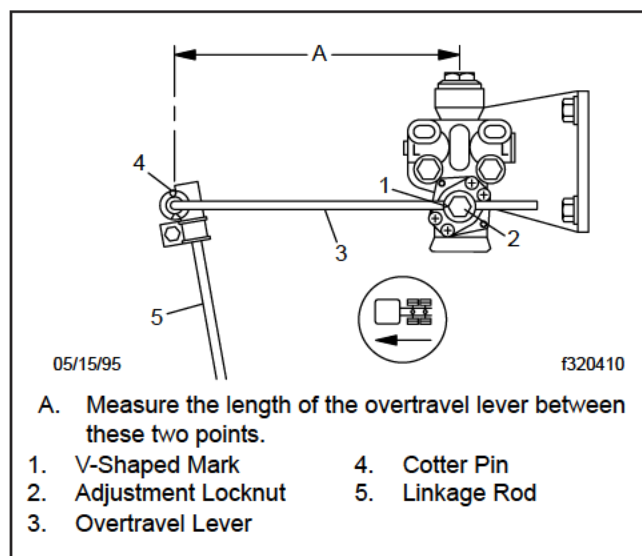

Fig. 5, AirLiner Overtravel Lever and Linkage Rod Measurement
3. Check the length of the overtravel lever between its pivot points. See Fig. 5, Ref. A. If the vehicle is equipped with an adjustable leveling valve, the length should be 8 inches (203 mm). If the length is incorrect, See **Group 32** of the *Condor® Workshop Manual* for adjustment procedures.